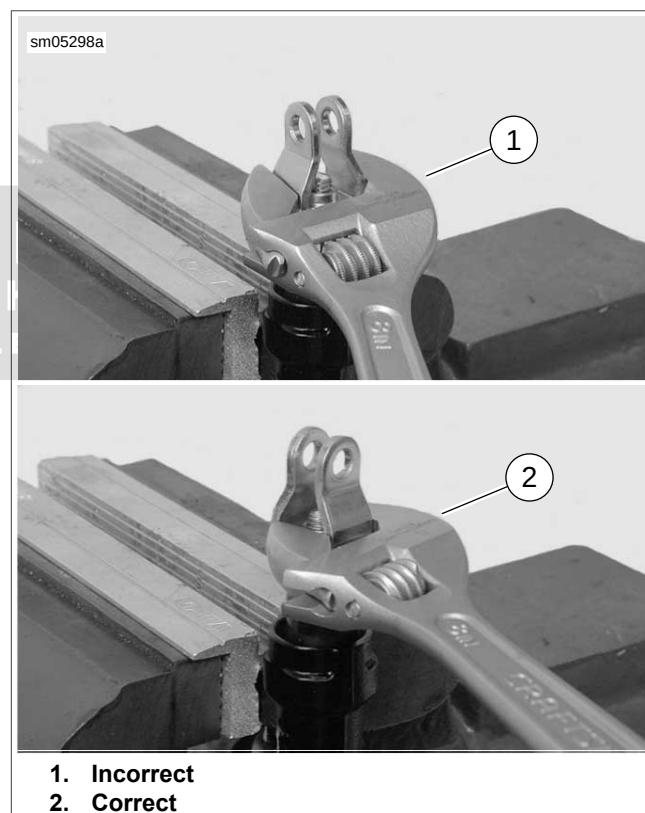

Figure 2-92. Holding Yoke
- See Figure 2-92. Clamp rear brake master cylinder in a vise with yoke pointing up.